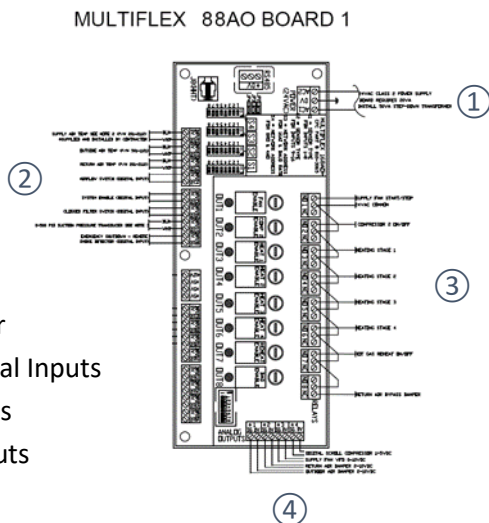
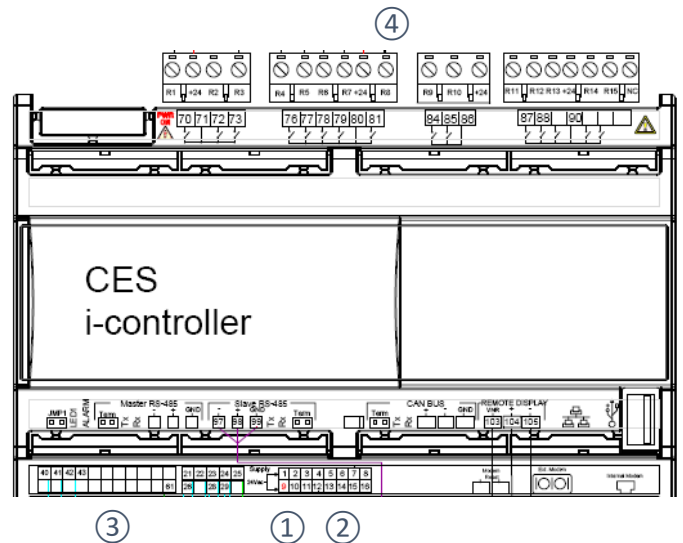

Figure 6. Emerson Multi-Flex 88AO board
Figure 8. Flō i-Controller
The MF88AO board has four analog outputs. Each output will have a white signal wire connected to SG point and black common wire connected to the 0V point. *See Figure 6.* I-Controller point 21 – 30 are the analog outputs for devices requiring an analog 0-10V run signal. *See Figure 8.*
MF88AO has eight relay outputs. *See Figure 6.* Each output terminal has a normally open (NO) signal and a +24VAC common (C) wire connection.
After the +24VAC common connections are terminated, using Table 5, transfer each control signal point to the corresponding i-Controller output point located on pins 70 - 93. *See Figure 8.* Transfer one signal wire at a time from the old controller to the new point location on the i-Controller.